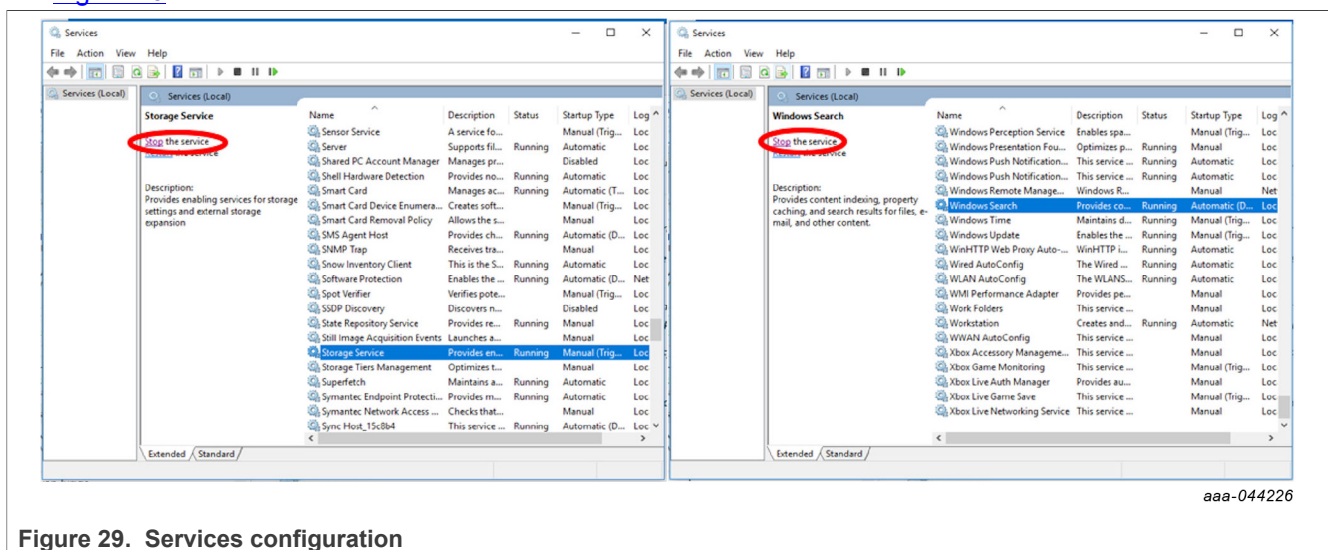

Figure 29. Services configuration
1. Disable the Storage Service and Windows Search: Run Services, double-click, and stop them as shown in Figure 29.